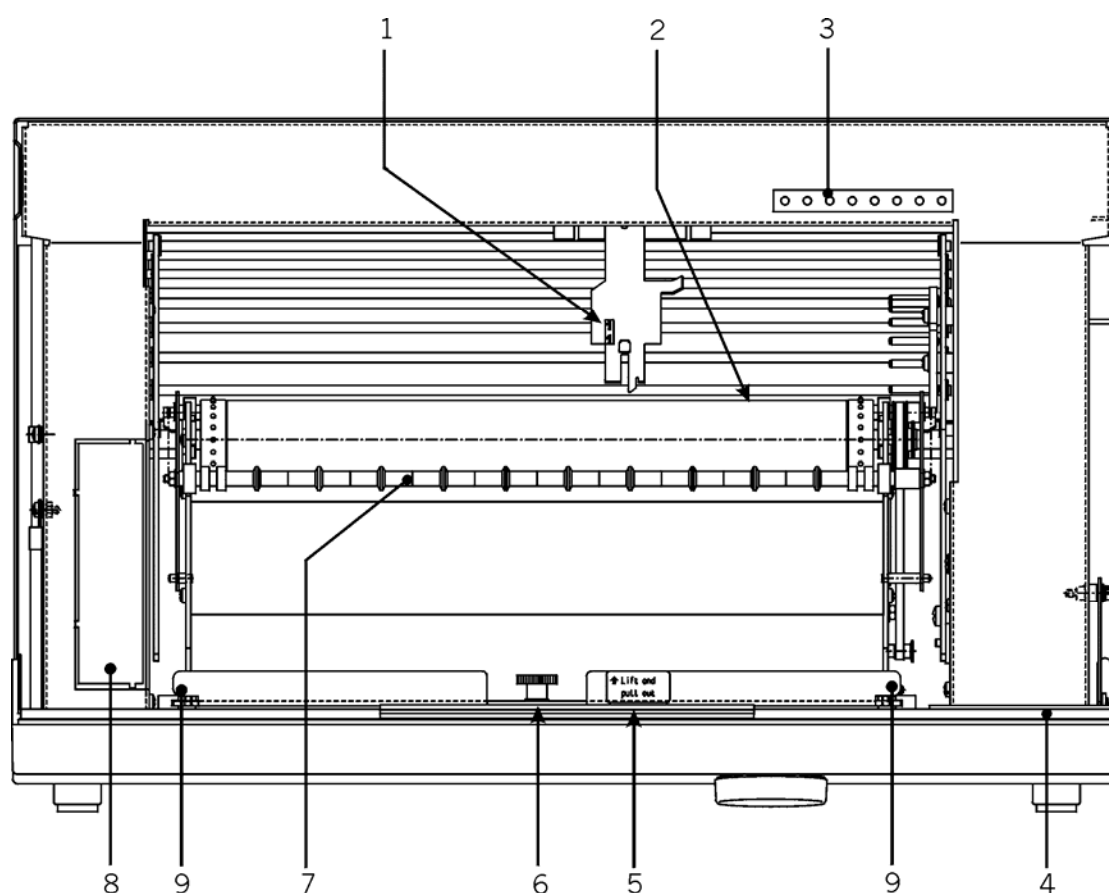

Figure 3.2 BD 300 with open front panel
When the BD 300 is shipped, the paper guide and printer are secured with wire ties. The chartdrive subsystem with the paper tray is secured with one lock nut, a bolt and a ring. Before the recorder can be used these items have to be removed. First open the recorder by pulling the front door towards you and lowering it until it is in a horizontal position. The location of the lock nut is indicated in figure 3.2 (6). The spacer is located under the chart cassette and can be removed by pulling the chart cassette out.
To obtain easy access to the pen holders, press the 'pen change' button. This button is located at the right hand inside of the front cover, as indicated in figure 3.2. Pushing this button once brings pen 1 through 4 into a position that allows for easy pen change. All felt pens are identical, except for their colour. The felt pens can be interchanged freely.
Before a felt pen can be mounted, the small white cap must be removed. These caps can be stored in the small holes, which are indicated in figure 3.2. The felt pens are mounted with the coloured stripe facing the user. First the bottom side of the felt pen is hooked into the small metal ridge, after which the felt pen is pushed under the metal clip at the top of the pen holder.
To load the recorder with paper, the paper tray has to be pulled forward. This can be done by lifting the lever indicated in figure 3.2, and simultaneously pulling the ridge at the bottom of the paper tray, preferably with both hands. Then pull towards you the paper guide and lower it all the way. Put the new pack of paper into the rear compartment of the paper tray in such a way that the printed side of the paper is on top when you pull the edge of the paper over the sprocket feed shaft, in order to lead the paper into the front compartment, the larger sprocket holes should be on the right hand side. It is recommended that you pre-fold some paper into the front compartment.
Note: When the paper is not running flat over the paper guide body, or if the recorder is out of paper, this condition is signalled by the 'paper out sensor'. The location of this sensor is indicated in figure 3.2. The absence of paper is indicated by a blinking chart LED.